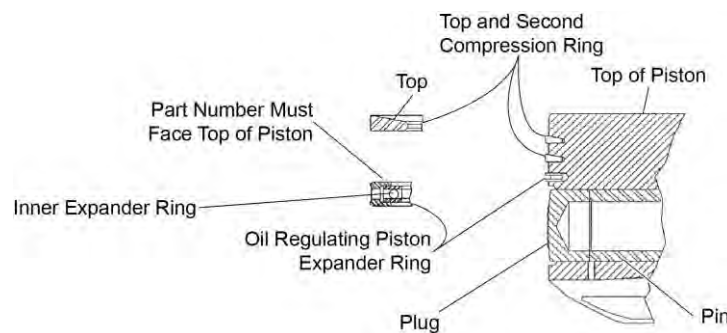

Figure 13
- B.** Make sure that the gap in the oil regulating piston expander ring is 180° opposite the gap in the inner expander ring (Figure 13).
- C. With the piston top side up on a workbench, install the oil regulating piston expander ring (Figure 13) in the first groove above the piston hole, with the part number facing the top of the piston.
- D. Install the two top compression rings (Figure 13) with the word "Top" toward the top of the piston in the remaining top grooves.